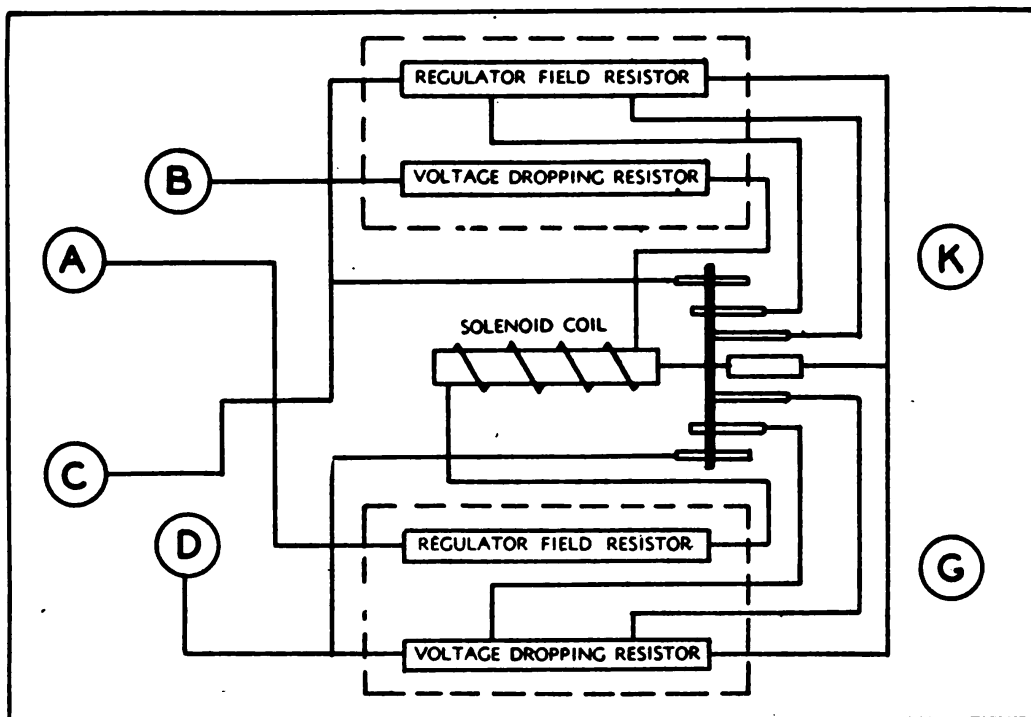

Figure 14a. Operation Diagram of Voltage Regulator
*b. Theory of operation.*—(1) Reference to wiring diagrams, (figs. 14a and 34) will assist in understanding the operation of the regulator.
(2) Since the solenoid is energized from the a.c. generator, any change in a.c. voltage will cause motion of the solenoid plunger. The resulting motion of the arm and contact roller changes the resistance in the exciter-shunt field circuit so as to restore the a.c. voltage to its original value.